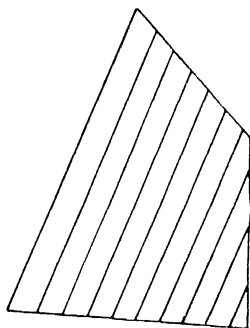

FIG. 22. Cut of a gaff mainsail, verticle cut. Gaff mainsails are also cut horizontally with cloths at right angles to leech, but this is not recommended.
**T**HE gaff mainsail is more often cut vertically (Fig. 22), in order to give the leech maximum strength. The strain on the leech is greater than in the case of the Bermudian sail as the boom is usually heavier, and if the gaff is peaked too high, all the boom's weight is on the leech.